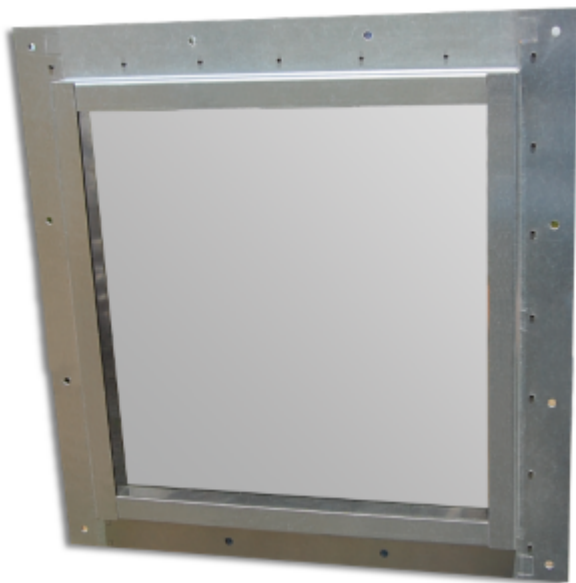

Figure 75.1: Example of a framed ready to install high-performance shielding window
- High performance combinations of above materials, framed in metal with gaskets for easy mounting (fig. 75.1) **75**
We produce turnkey shielded windows with up-to and even over 100 dB attenuation that can be installed directly into an MRI room. These windows are framed and have several layers of shielding, all of which are connected to one another. (fig. 75.1).